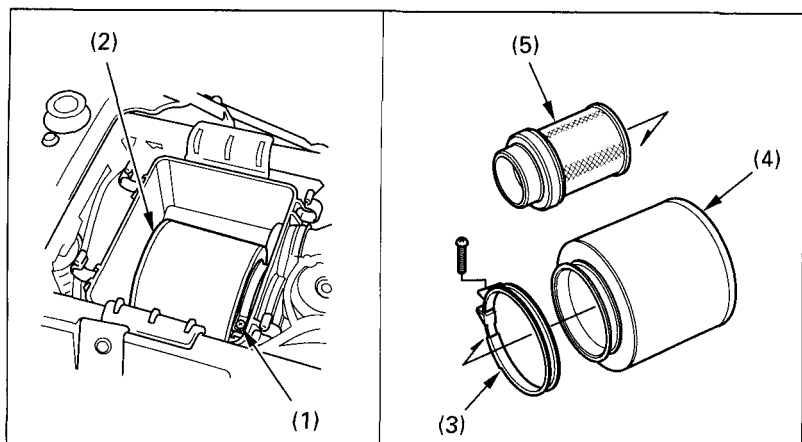

Fig. 4-5 (1) Screw (2) Air cleaner assembly (3) Clamp (4) Air cleaner (5) Air cleaner body
3. Remove the screws (1) (Fig. 4-5) and remove the air cleaner assembly (2) from the air cleaner housing.
4. Unscrew the clamp (3).
5. Remove the air cleaner (4) from the air cleaner body (5).